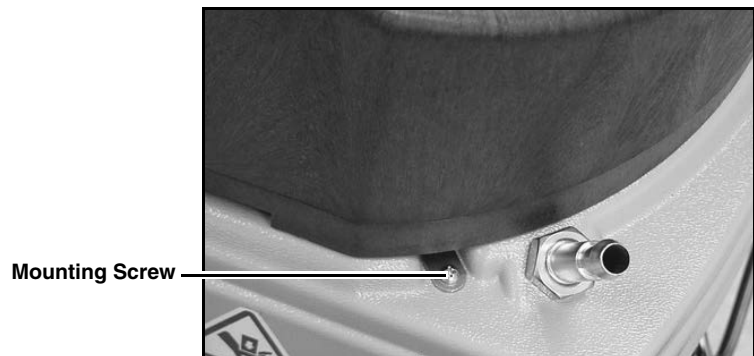

Figure 9-4 Controller mounting screw (1 of 4)
3. Remove the controller from refrigerator assembly by removing four screws. See Figure 9-4.